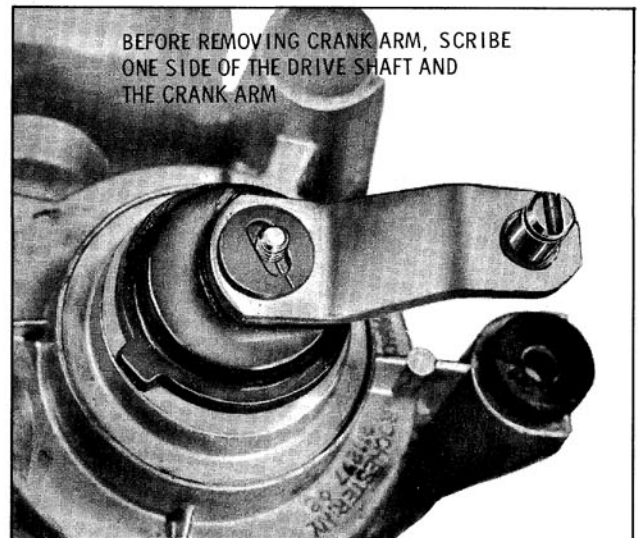

Fig. 13-140 Marking Crank Arm
1. Mark the crank arm, drive shaft and the motor housing, then remove the crank arm retaining nut. (Fig. 13-140)